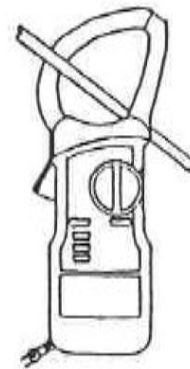

Fig.1
**Note :** Clamp around only one conductor of the circuit to be measured. (See Fig.1)
- ① Set the power switch to "ON" position.
- ② Set the function switch to a range appropriate to the current to be measured.
- ③ Press the sub-function switch for AC measurement, “~” mark is displayed.
- ④ Clamp the conductor of the circuit at the center of CT.
- ⑤ Read the current value in the display.
- ⑥ If you make measurements in a dark place or in a place where it is difficult to see the readings, use the data hold switch.